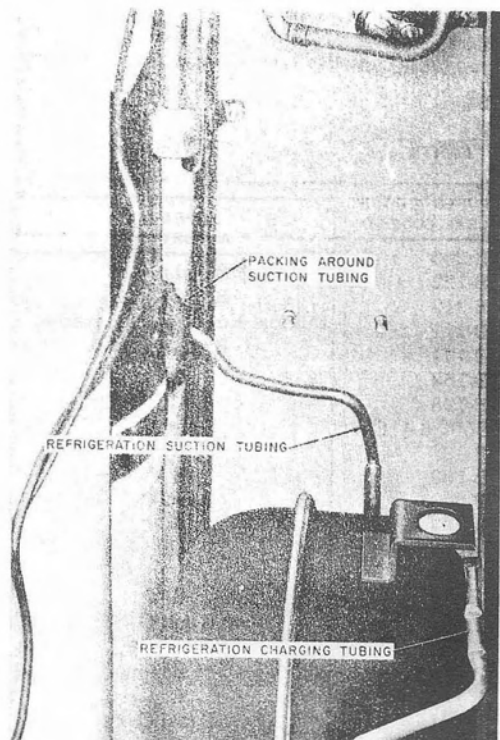

Fig. 8—B Air Dryer Showing Refrigeration Suction and Charging Tubing
- (6) **Coat all exposed** refrigeration suction and charging tubing with Rust Oleum (see Fig. 8).
- (7) Replace mounting bracket, air compressor, and motor.